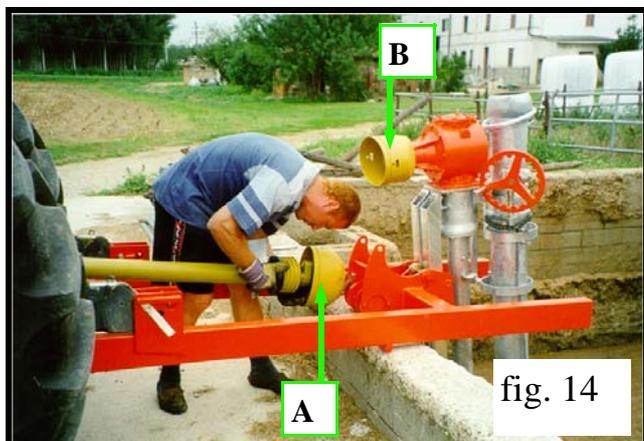

fig. 14
- disconnect the Cardan shaft on the pumping-unit's side A fig. 14 and insert it in place of the winch lever B fig. 14. (NO FOR VERSION WITH HYDRAULIC WINCH)